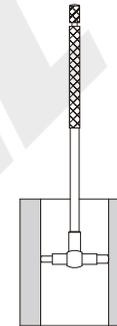
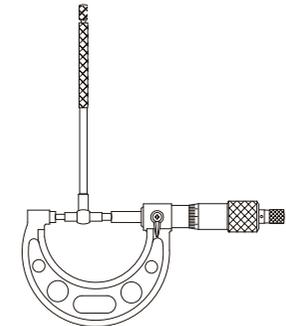

Fig.1
Fig.2
--- Select the appropriate size of the telescopic gage, turn the clamp anticlockwise, press the probe to retract the tee and turn the clamp clockwise, then send the telescopic gage into the hole or slot to be measured (Fig.1). Turn the clamp anticlockwise. When the telescopic probe touches the inner wall of the hole or slot, turn the clamp clockwise and take out the telescopic gage. Use a caliper or micrometer to measure the dimension between the measuring surfaces of the two telescopic probes (Fig.2). The reading is the inner diameter of the hole or the width of the groove.